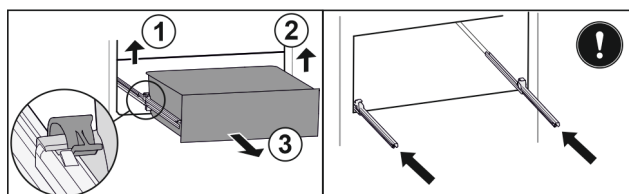

Fig. 142
- Lift left clamp and simultaneously pull drawer forwards on the left. Fig. 142 (1)
- Lift right clamp and simultaneously pull drawer forwards on the right. Fig. 142 (2)
- Remove drawer to the front. Fig. 142 (3)